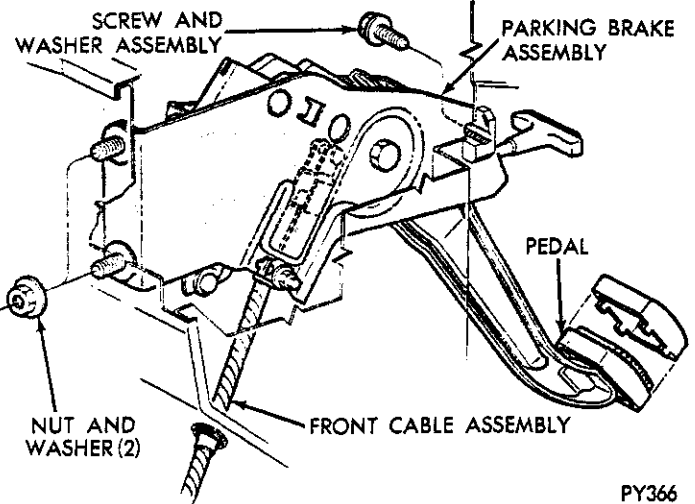

Fig. 3—Parking Brake Pedal (Challenger)
- (3) Remove retaining clip from brake cable bracket.
- (4) Remove brake drum from rear axle.
- (5) Remove brake shoe return springs.
- (6) Remove brake shoe retaining springs.
- (7) Remove brake shoe strut and spring from brake support and disconnect brake cable from operating arm.
- (8) Compress retainers on end of brake cable housing and remove cable from support. (Fig. 3) Wheel Cylinders.
(4) Fold back left front edge of floor mat and remove rubber cable cover from floor pan.
(5) **Depress** parking brake pedal and work brake cable up and out of brake pedal linkage, (Figs. 3 or 4).
(6) Using a screwdriver force upper end of cable housing and clip down out of pedal assembly bracket.
(7) Remove cable to floor pan clip and work cable and housing assembly up through floor pan.